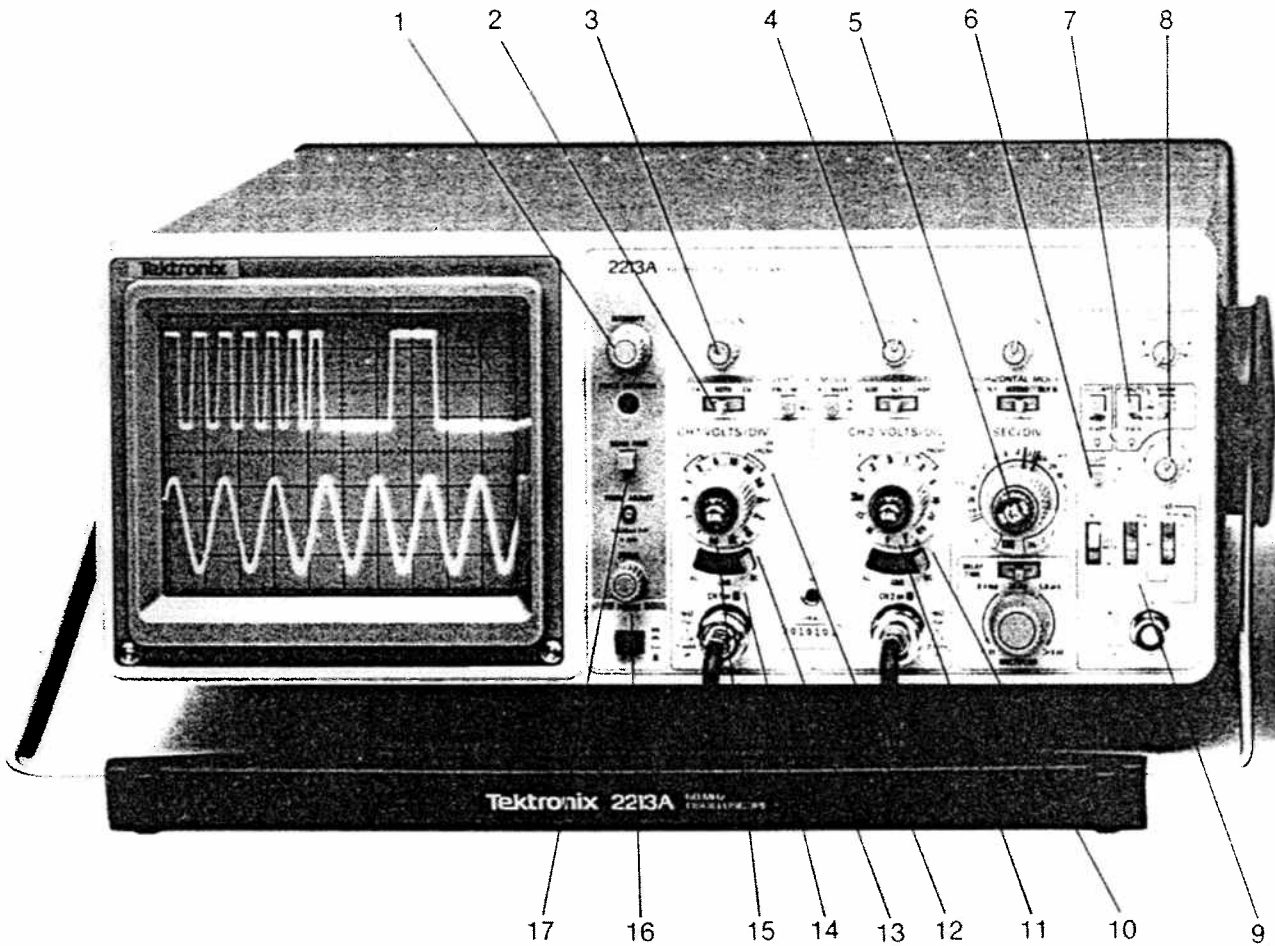
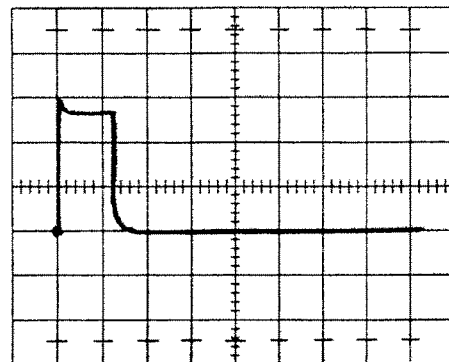

Figure 1 Tektronix M/2213A Oscilloscope — Front Panel
Figure 6 SCA Logic Pulse
The oscilloscope you'll use here is a Tektronix model 2213A or something very similar. The front panel of an M/2213A is shown in Figure 1 on the next page.
5. Connect the positive output of the single channel analyzer to input channel 2 on the oscilloscope, switch the scope to channel 2, and adjust the channel 2 controls ((10), (11) in Figure 1) to see the SCA output pulse. It will look something like Figure 6. Adjust the pulse-height setting on the pulser and/or the amplifier gain, and notice that the size of the input does not affect the logic pulse from the SCA.